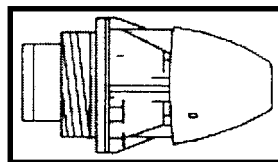

Figure 7-17. M734 multioption fuze.
c. **M734 Multioption Fuze** (Figure 7-17).
- (1) Functions: Proximity or impact.
- (2) Settings: PRX, NSB, IMP, or DLY.
- (3) Remarks: The fuze can be set by hand.